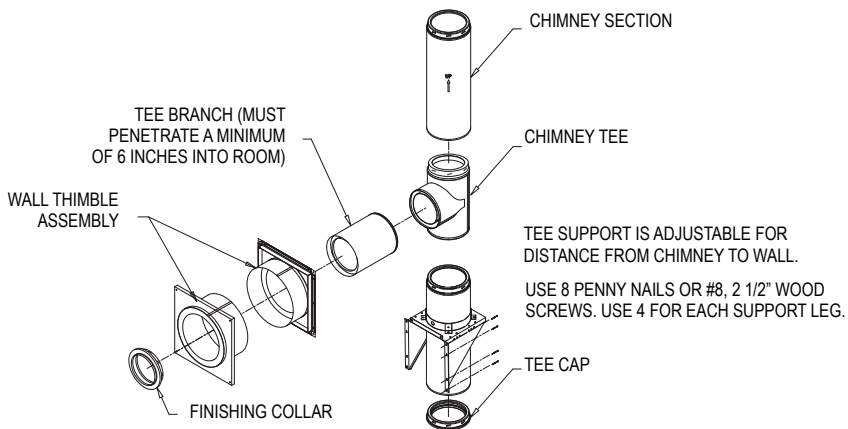

Figure 24
DuraTech Chimney (**Table 2**). The various support components are adjustable in length from the wall to better fit your installation. There are two options when installing a Tee-Supported installation: the Tee Support above the Tee, or the Tee Support below the Tee. The required parts and general configuration are as shown in **Fig.24, 25, 26 and 27**.
3. Install Wall Thimble: The Wall Thimble is a two-piece component which includes the Interior half and the Exterior half. On the outside wall, install the back portion of the Wall Thimble. Center the back portion of the Wall Thimble (with shield inside wall) in the framed opening of the outside wall (**Fig.24**). Be sure to seal the flange of the Wall Thimble around the wall by using a non-hardening waterproof sealant. Attach the back portion of the Wall Thimble to the outside wall using at least (4) 8-penny nails or (4) #8, 1-1/2" wood screws. There must be a continuous shield within the wall. If the two halves of the Wall Thimble do not overlap, a field-fabricated extension constructed out of 26-gauge galvanized or stainless steel is needed.
Thimble (**Fig.24, 25, 26 & 27**). The Tee Support may be installed either above the Tee or below the Tee (within one pipe section), as seen in **Fig.25**. See **Table 2** for weight bearing values of components. Important: Verify that Tee Support is level, and secure the Support to the wall using (4) #8, 2-1/2" screws for each side. Slide support base over leg brackets to adjust for desired clearance to wall, and secure by tightening bolts (**Fig.24 & 25**).
6. Install Branch onto Tee: From inside the house, attach the Chimney Branch up to 24" chimney section, depending on wall thickness, positioned horizontally used to pass through the wall) to the Tee by twist locking it clockwise. Important: The Chimney section used to penetrate through the wall must extend at least 6" into the room (**Fig.24 & 27**). Use high-temperature sealant (500°F) to seal between the Wall Thimble and the Chimney on the outer wall.
7. Install Cover Plate and Finishing Collar: After the Chimney Branch is secured in place (penetrating at least 6" into the room), slide the Cover Plate over the Branch and attach it to the framing using (4) 1-1/4" long, round head wood screws. Be sure that the Branch is centered in the opening of the Cover Plate.